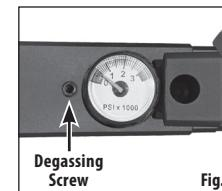

Fig. 4
2. Locate the degassing screw on the bottom of the rifle next to the regulator gauge (Fig. 4).